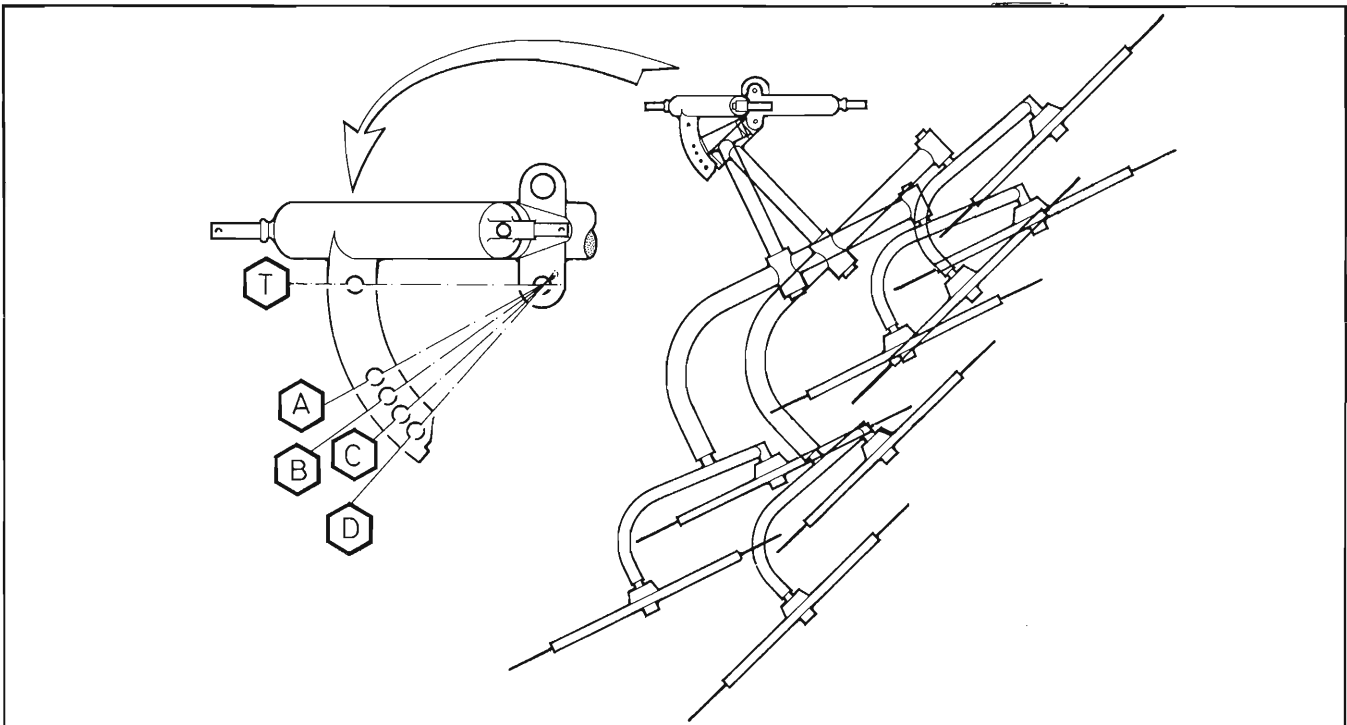
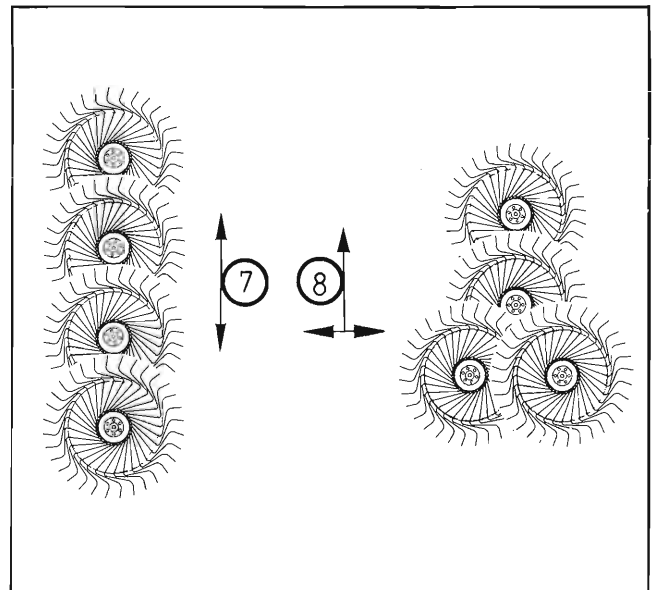

Fig. 9
Fig. 11
There are (4) holes for adjusting the Wheel angle or working position (Fig. 9). A fifth position (T) is also provided (Fig. 9). For transporting the WR204, the Finger Wheels should be positioned vertically (7 of Fig. 11) and the two lower Finger Wheels should be positioned horizontally (8 of Fig. 11), to obtain more ground clearance.